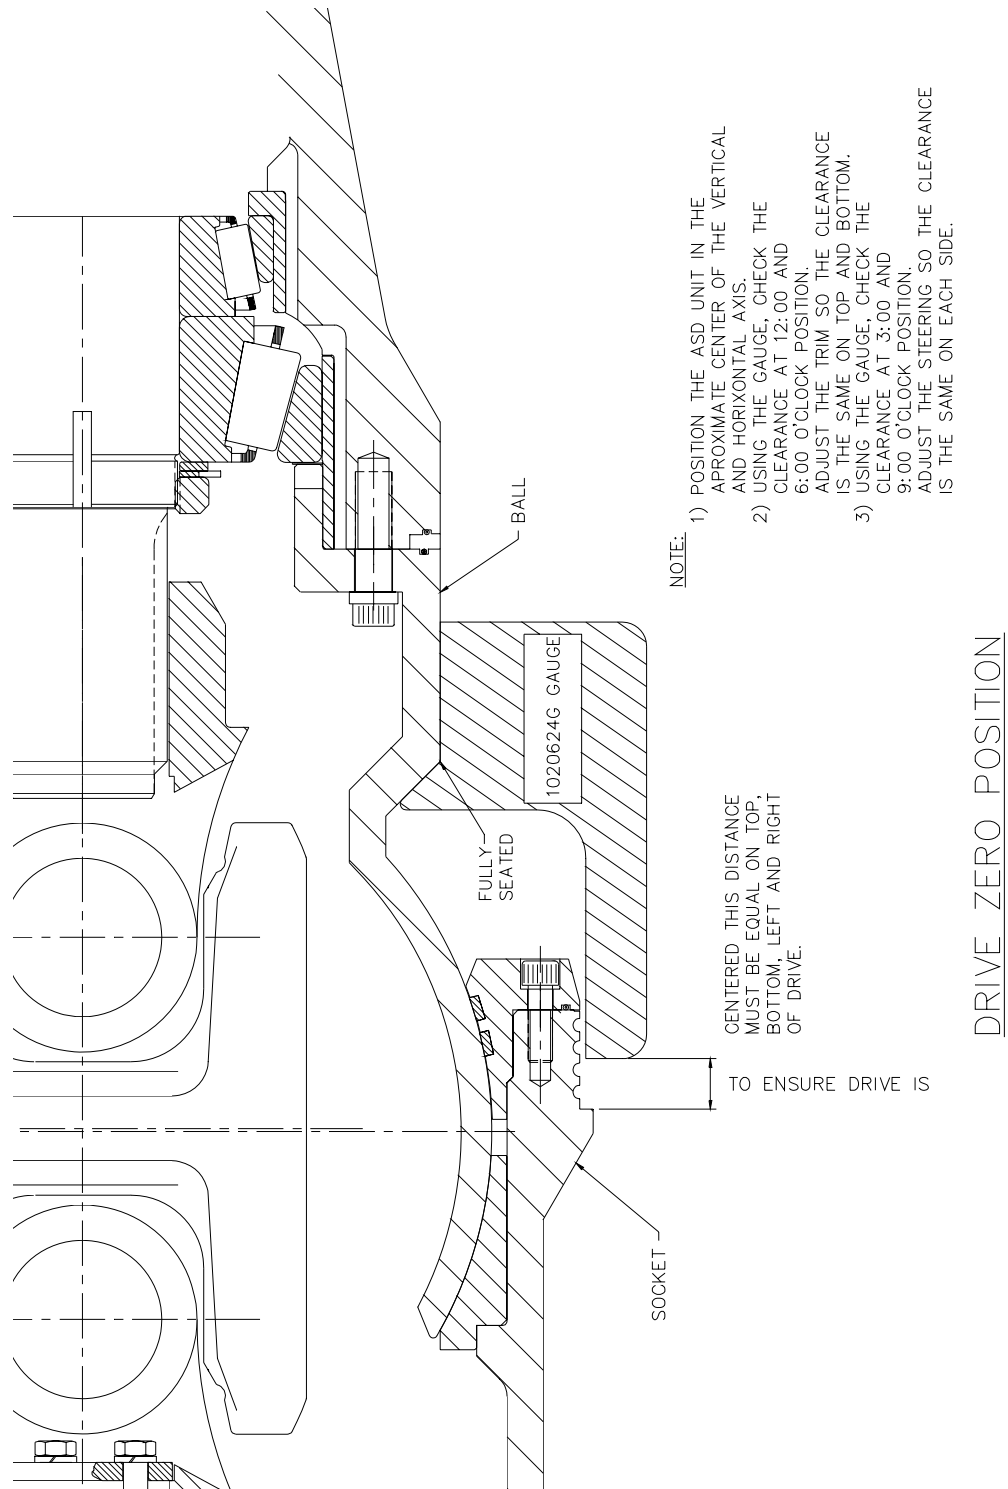

Figure 23. Center the Thrust Ball in the Socket
2. Position the drive in the neutral trim position and parallel to the vessel centerline. See Figure 23. Attach the steering cylinder clevis to the trim yoke pin with the hardware supplied. See Figure 26. Torque nut to 57 N m (40 ft.-lbs).